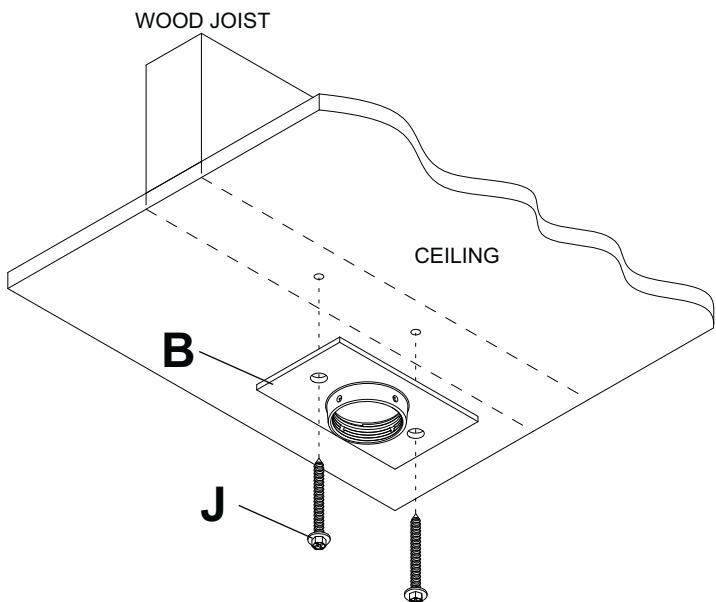

fig. 1.1
- 1** Drill two 5/32" (4 mm) dia. holes to a minimum depth of 2.5" (64 mm). Attach ceiling plate (**B**) to ceiling with two #14 x 2.5" wood screws (**J**) using 3/8" (10 mm) socket wrench as shown in figure 1.1.